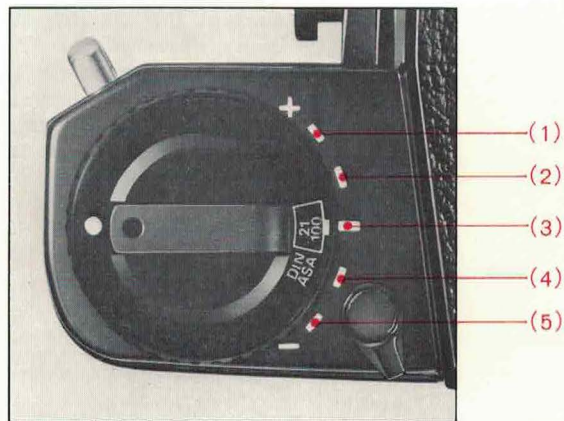

Fig. 38
For special purposes such as multiple exposure, exposure compensation can be accomplished by resetting the ASA/DIN dial. The following guide will be found useful in determining the correct length of exposure (Fig. 38).
As an example if over exposure to the extent of $\times 2/3$ is required, set 100 ASA to the red index (1). With this method it is possible to compensate from 40 to 250 ASA (Fig. 38). After the exposure has been made the ASA number must be returned to the red index mark.